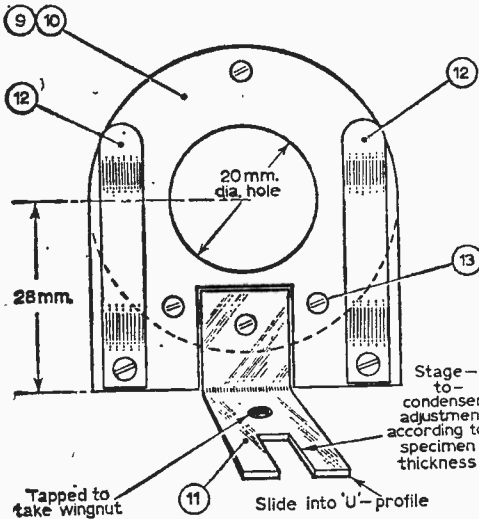

Fig. 2—Assembly details of the specimen stage.
- 13 Four 6BA countersunk screws (see Fig. 2).